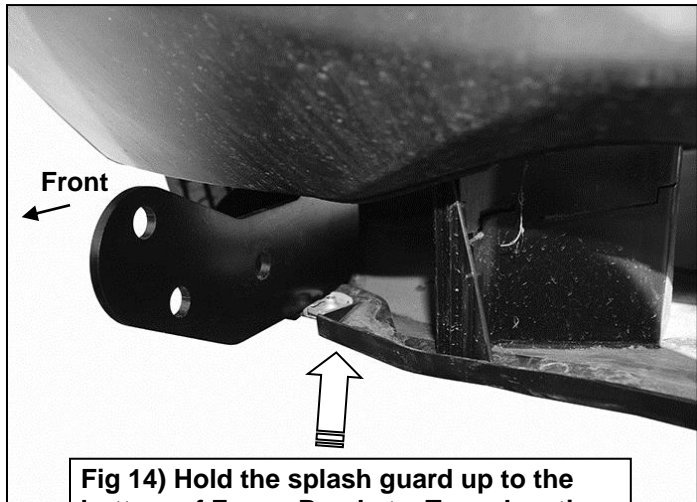
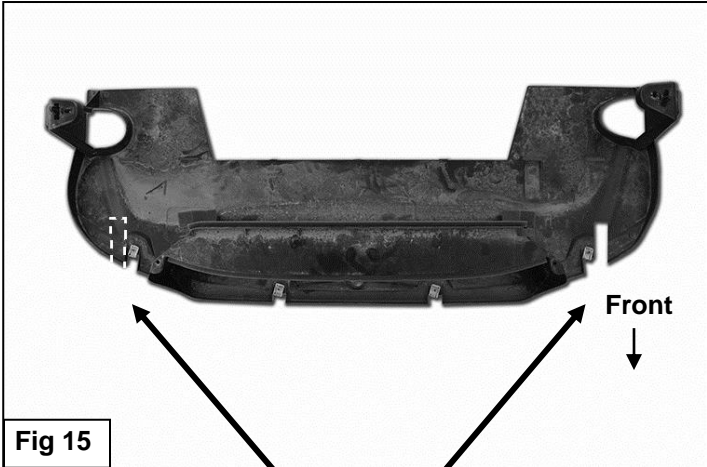

Fig 14) Hold the splash guard up to the
Fig 15
11. Hold the plastic splash guard up to the bottom of the Mounting Brackets, **(Figure 14)**. Trace the location of the Brackets onto the inside of the plastic cover. Use a sharp knife or hacksaw blade to cut out the sections from the cover, **(Figure 15)**. Reinstall the splash guard using the factory hardware.
12. Reinstall the license plate bracket over the Support Bracket. On models with bracket held on with rivets, use the included (3) ST6x20mm Screws to reattach the license plate bracket.